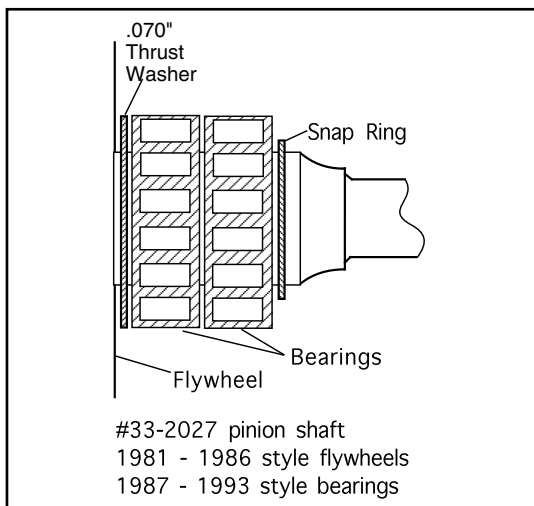

Figure 5
2. 1981 to 1986 big twin flywheels and S&S pinion shaft 33-2027—extra .070" main bearing thrust washer supplied in kit is normally used. Typical washer and bearing arrangement - .070" washer against flywheel, bearings, and snap ring. See Figure 5.